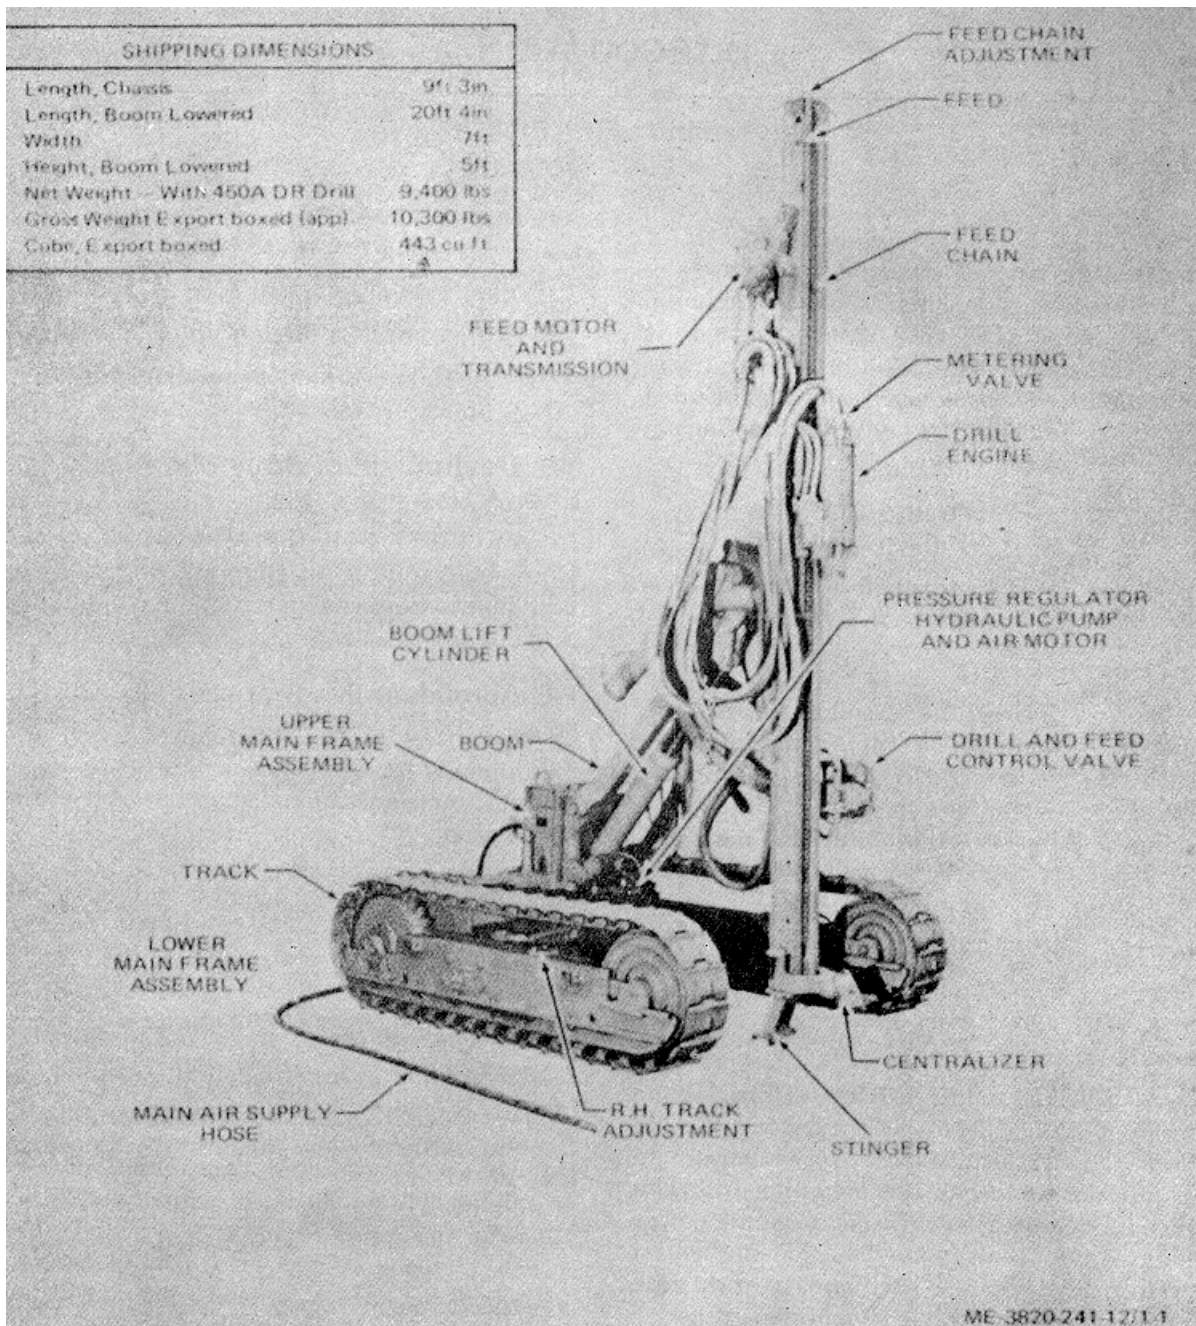

Figure 1-1. Rock drill assembly, right front, 3/4 view with shipping dimensions.
a. General. The pneumatic drifter drill (figs. 1-1 and 1-2) is a heavy duty, self-propelled crawler drill. The ram mounts a hydraulically operated swing boom jib that permits positioning of the feed and drill. The hydraulically operated boom also permits power positioning of the feed for vertical and horizontal drilling. The drill also can be positioned over the side of the crawler track for drilling in confined areas.
(1) A heavy duty precision type drill engine (fig. 1-1), designed for deep hole drilling in hard rock.
(2) A drill feed and control valve (fig. 1-1) to control the drill, blow, feed, and rotation functions.
(3) A feed assembly (fig. 1-1) used as a track for the drill engine to slide back and forth during the drilling operation.
(5) A stinger (fig. 1-1) mounted on the front end of feed to provide a pressure point for drilling.
(6) A centralizer (fig.1-1) used to maintain drilling alignment.
(7) A feed motor and transmission (fig. 1-1), used to pull the drill slab back, forward or backward along the feed.
(8) A boom (fig. 1-1), which is a connecting assembly between the feed mechanism and the tractor.
(13) An upper main frame assembly or pedestal (fig. 1-1) is a steel weldment which mounts the boom controls, tramming controls, pump motor shut-off and lubricator.
(18) A lower main frame assembly (fig.1-1) which is the tractor section of the drill carrier.
(19) A track oscillating system which permits each track to move separately to conform with terrain.
(20) Two tramping motors and transmissions to power the drill carrier.
(21) A hydraulic pump and air motor pressure
(22) Two tracks (fig.1-1) used as the drill carrier.